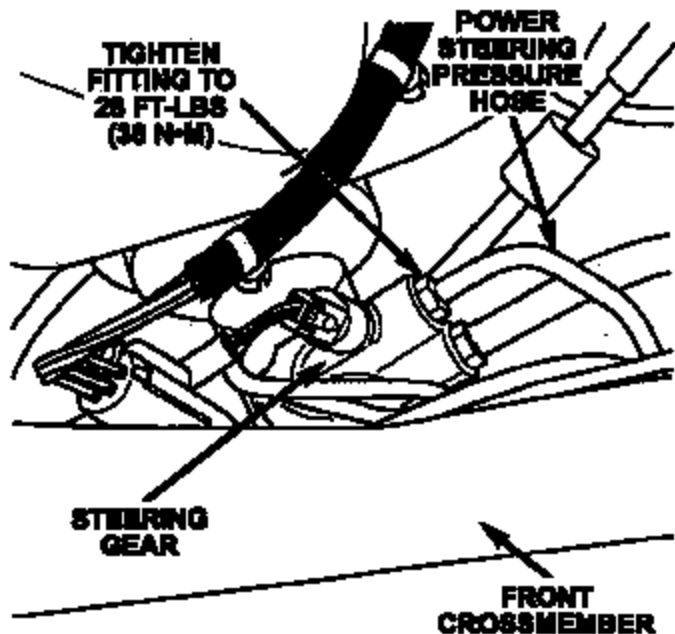

Figure 4
6. Loosen the power steering hose-to-steering gear connection (Figure 4).
10. While keeping the hose in position, tighten the power steering hose-to-steering gear connection to 28 ft-lbs (38 N-m) (Figure 4).